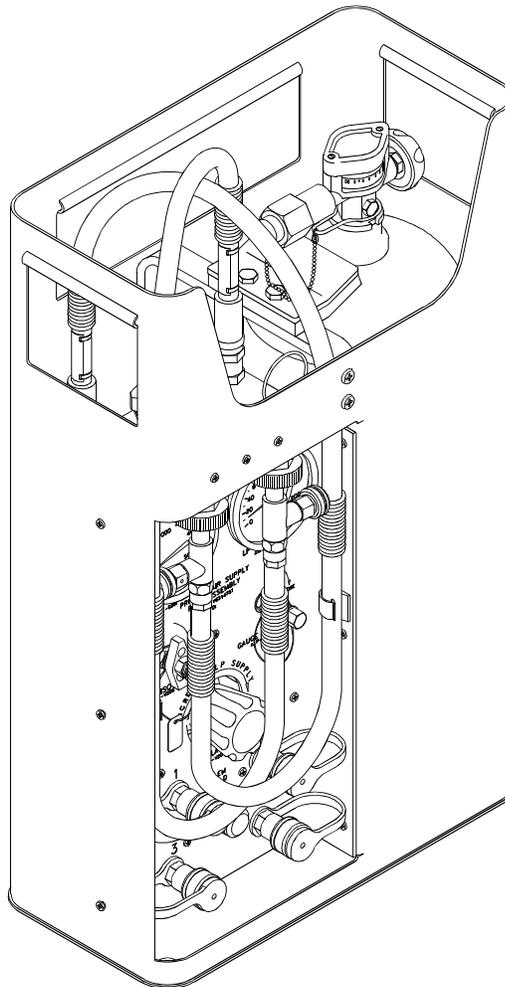

Figure 8-8. High-Pressure Storage Configuration
- e. Hoses shall not be stored in a distorted position which may cause permanent damage. To store HP PASP hose, disconnect from cylinder and coil hose around brackets inside PASP control panel (Figure 8-8).